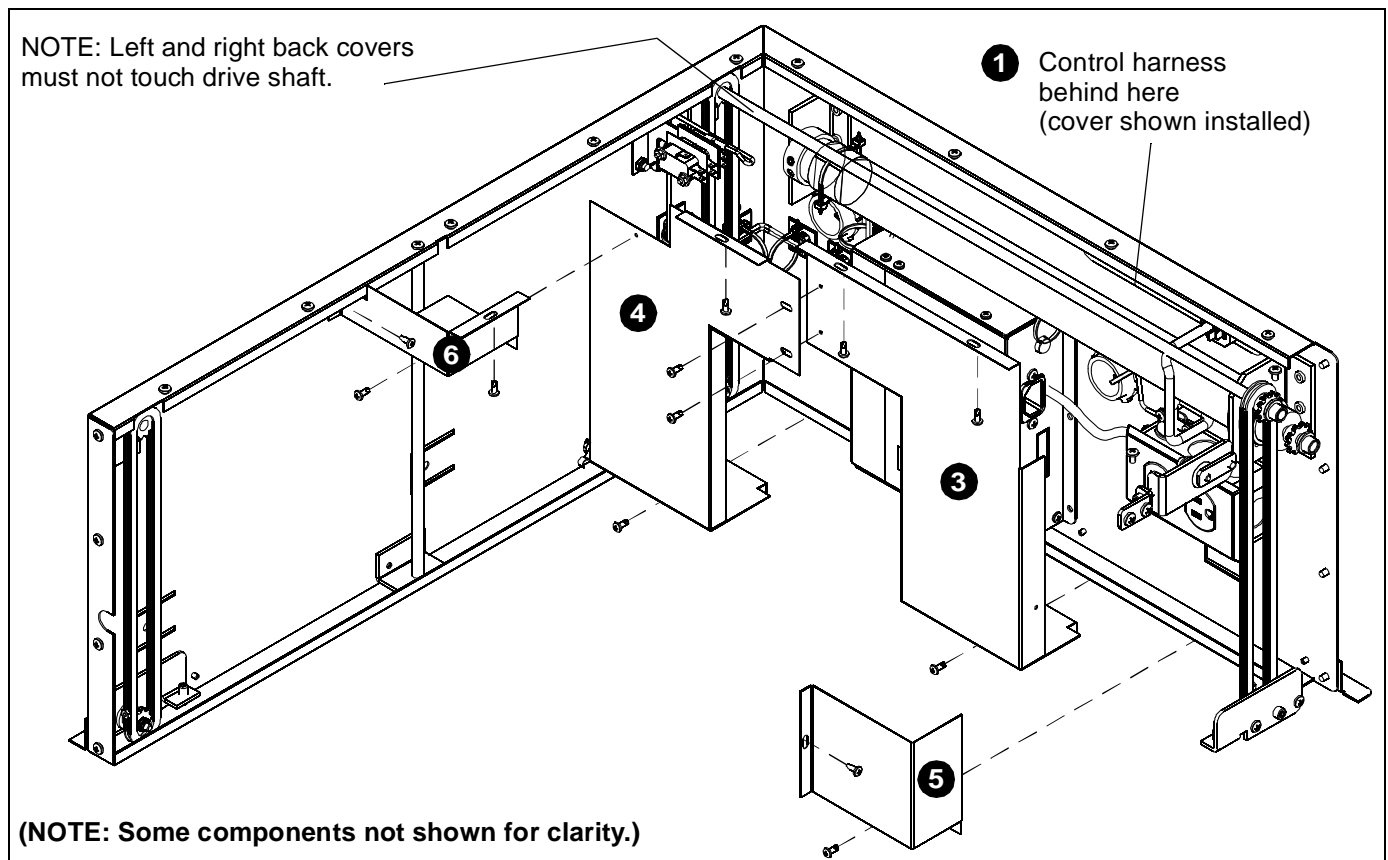

Figure 13. Install Optional Wiring Cover
1. Remove the control harness, and place cover (included in kit) over hole. (See Figure 13)
4. Fit left back wiring cover against right back cover and place against control box. Install self-drilling screws. (See Figure 13)
5. Install small wiring cover to the right of the right back wiring cover and fasten with self-drilling screws. (See Figure 13)